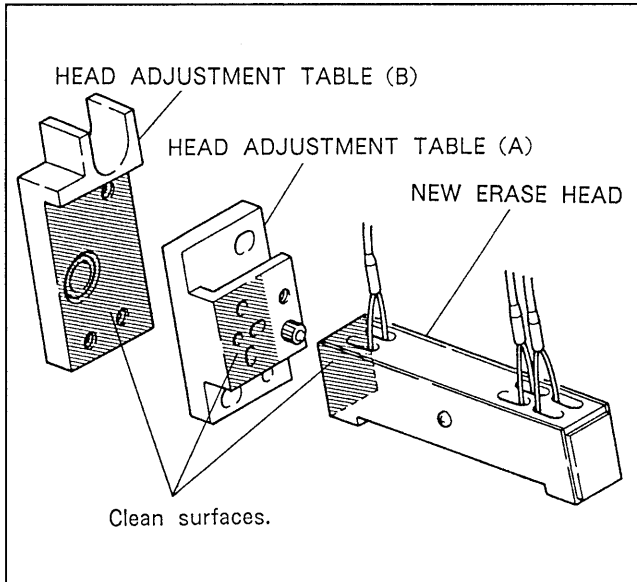

Fig. 6-15-3. Cleaning the Mounting Surface
7. Clean the shaded area of each mounting surface shown in Fig. 6-15-3 by the cleaning cloth (or gauze) soaked with alcohol.